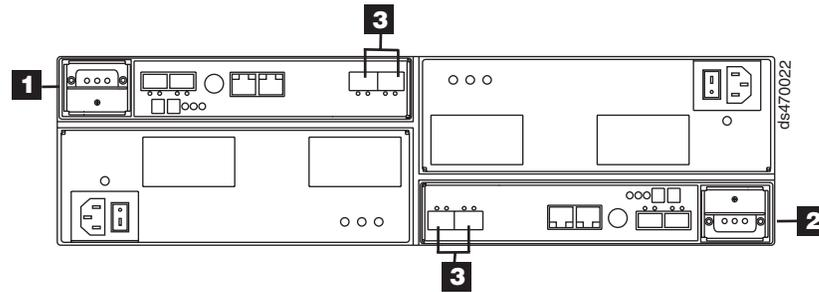
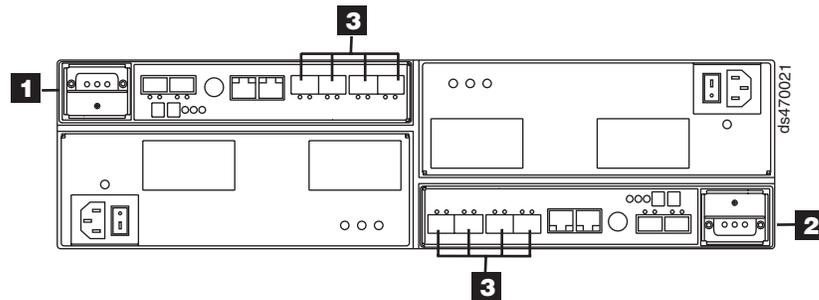

Figure 75. Location of host cables on RAID controllers on model 70 of the DS4700 Express
Figure 76. Location of host cables on RAID controllers on model 72 of the DS4700 Express
2. Connect the fibre channel cables from the SFP modules in the DS4700 Express RAID controller host ports to either the SFP modules in the fibre channel switch or the SFP modules of the host bus adapters. Figure 75 on page 97 and Figure 76 on page 97 show the location on the RAID controllers on models 70